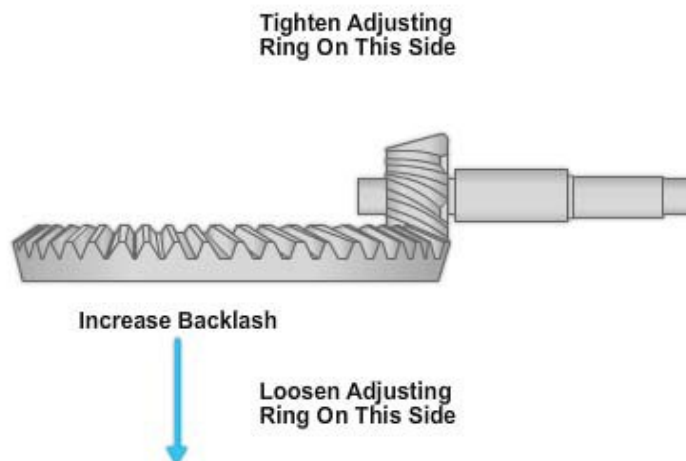
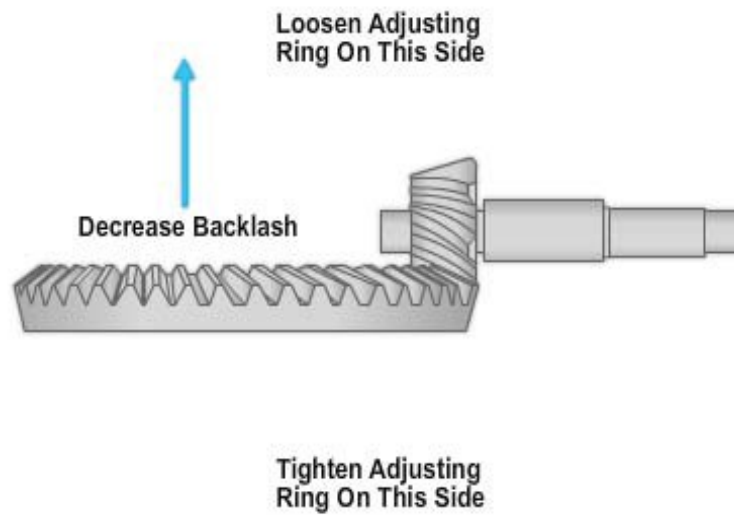

Figure 8-94 - Adjustments to increase backlash.
Figure8-95- Adjustments to decrease backlash.
6. Loosen one bearing adjusting ring one notch, and then tighten the opposite ring the same amount. Backlash is increased by moving the crown gear away from the drive pinion (*Figure 8-94*). Backlash is decreased by moving the crown gear toward the drive pinion (*Figure 8-95*).